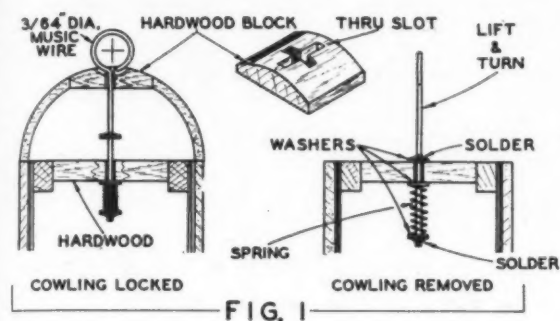
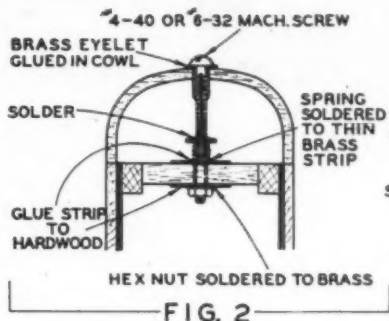

FIG. 1
FIG. 2
► The fasteners shown in the sketches are both practical and easy to make. Figs. 1, 2 and 3 show types that are both functional and not unattractive—good for team racers. Fastener in Fig. 1 will look like a loop antenna. Screw type in Fig. 2 is "captive" screw type. Spring serves the function of a lockwasher. This type may be used most effectively in stunt and scale ships.